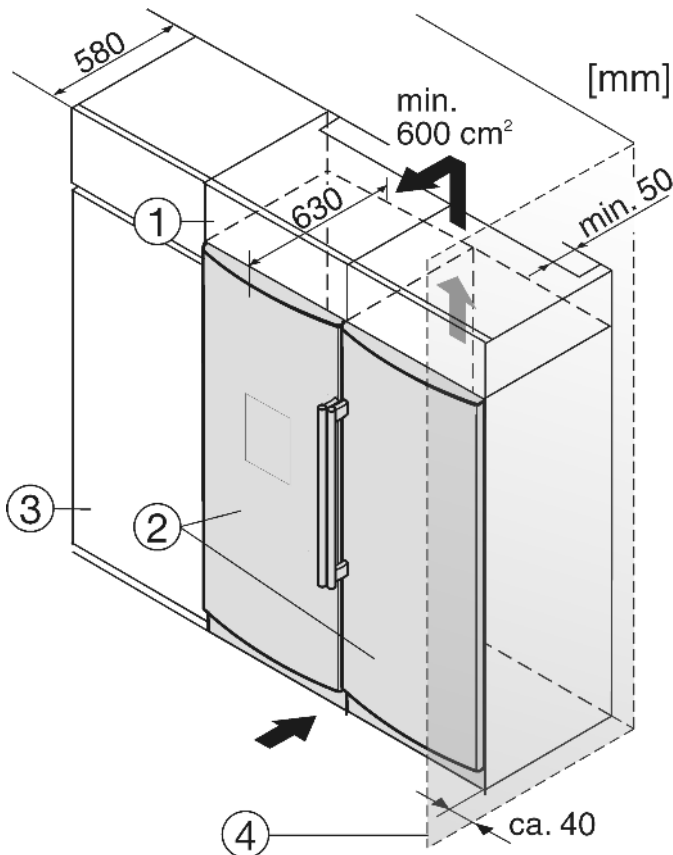

Fig. 19
(1) Stack cabinet (3) Kitchen cabinet
(2) Appliance (4) Wall
The appliance can be inserted into a row of kitchen units. To match the appliance Fig. 19 (2) to the height of the row of units, a suitable stack cabinet Fig. 19 (1) can be fitted above the appliance.
When inserting the appliance into a row of kitchen units (max. depth 580 mm), the appliance can be installed directly next to the kitchen unit Fig. 19 (3). The appliance door projects relative to the front of the kitchen unit by 34 mm at the side and by 50 mm in the middle of the appliance. It can be opened and closed perfectly as a result.
If the appliance is installed with the hinges next to a wall Fig. 19 (4), the distance between appliance and wall has to be at least 40 mm. This corresponds to the projection of the handle when the door is open.